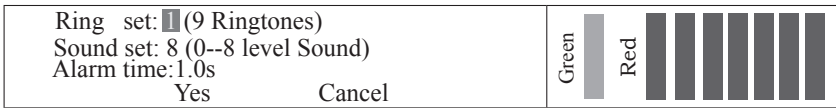

Fig. 6
- (1) Select “Alarm set” on parameter setting interface for confirmation, and then go into alarm setting interface, as shown in Fig.6.